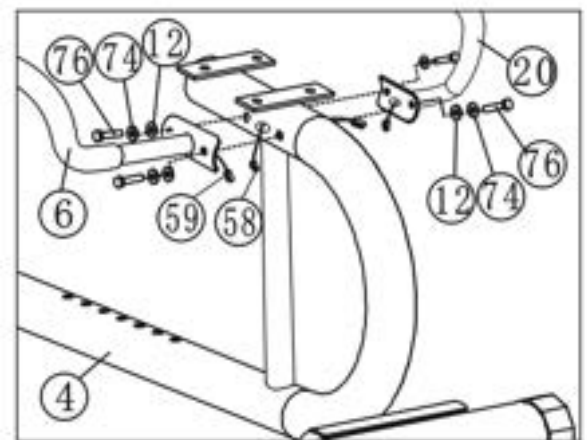

Figure 7
Connect the hand pulse wire II (59) from the Left and Right handlebar tubes (6, 20) to the hand pulse Wire I (58) from the Seat cushion adjustor (4). Attach the Left and Right handlebar tubes (6, 20) to the Seat cushion adjustor (4) with four M8*20 Bolts (76), spring washers (74) and Arc washers (12). (See figure 7)